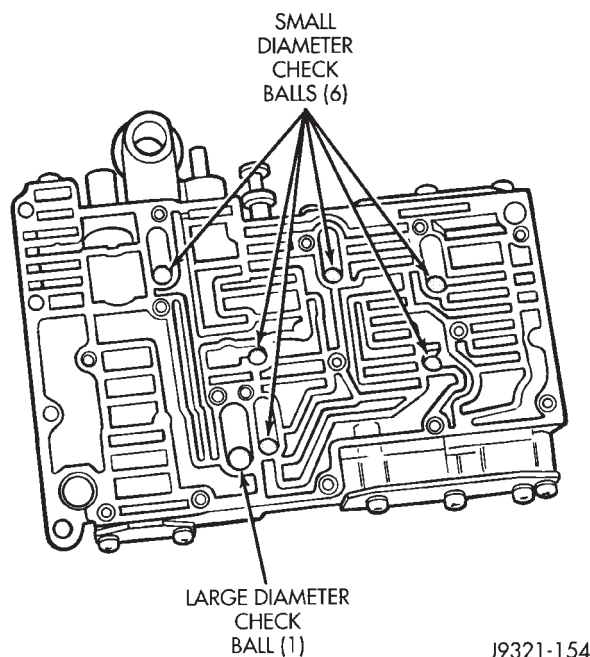

Fig. 111 Valve Body Check Ball Locations—46RH
(1) Note location of check balls in valve body upper housing (Fig. 111). Then remove one large and six smaller diameter check balls with magnet (total of 7 check balls are used).
- (1) Position upper housing so internal passages and check ball seats are facing upward. Then install check balls in housing (Fig. 111). Seven check balls are used. The single large check ball is approximately 8.7 mm (11/32 in.) diameter. The remaining 6 check balls are approximately 6.3 mm (1/4 in.) in diameter.